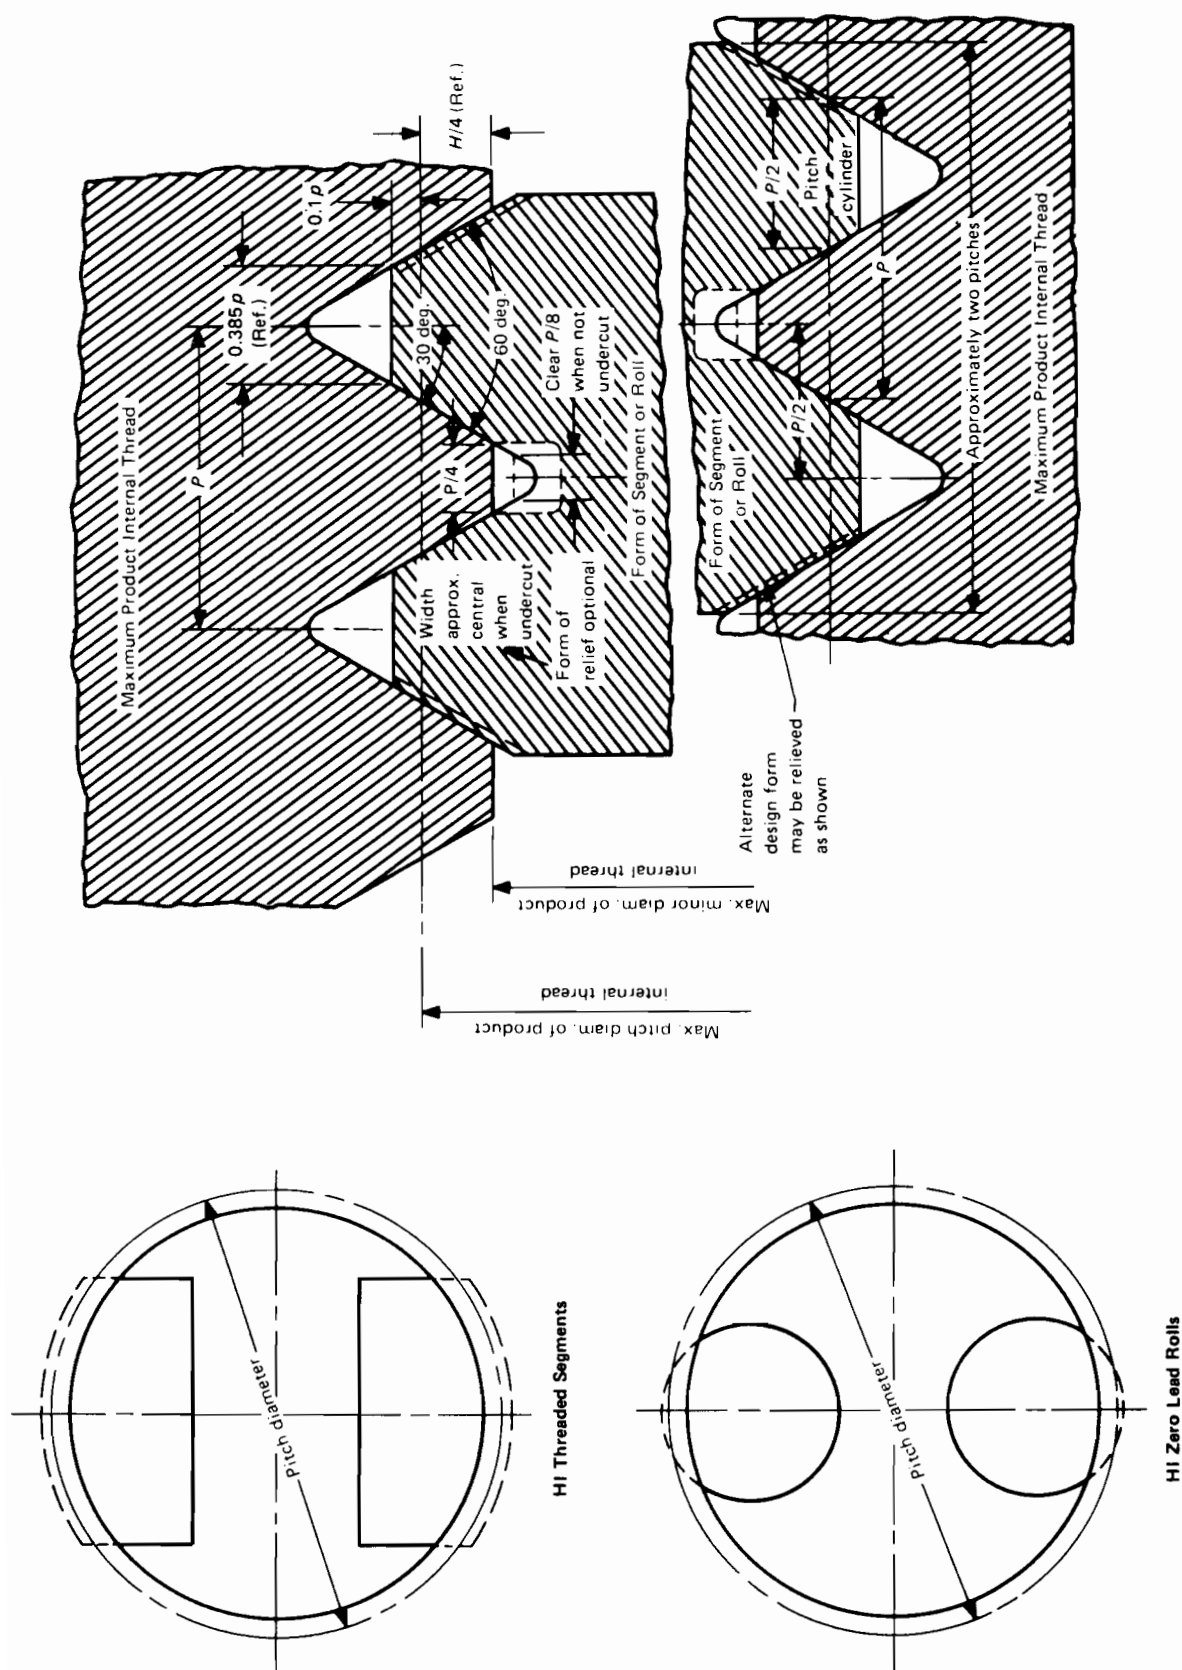

FIG. 5 THREAD SNAP GAGES — HI FUNCTIONAL DIAMETER LIMIT
4.4.3 Thread Form. The specifications for thread form are summarized in Table 4 and Fig. 5.
4.4.5 Thread Roots. The minor diameter of the HI segments and rolls shall be cleared beyond a $p/8$ width of flat by an extension toward a sharp vee of the sides of the thread or by an undercut to any dimension no wider than $p/4$. Undercut is to be approximately central with the center line of the thread groove. See Fig. 5.